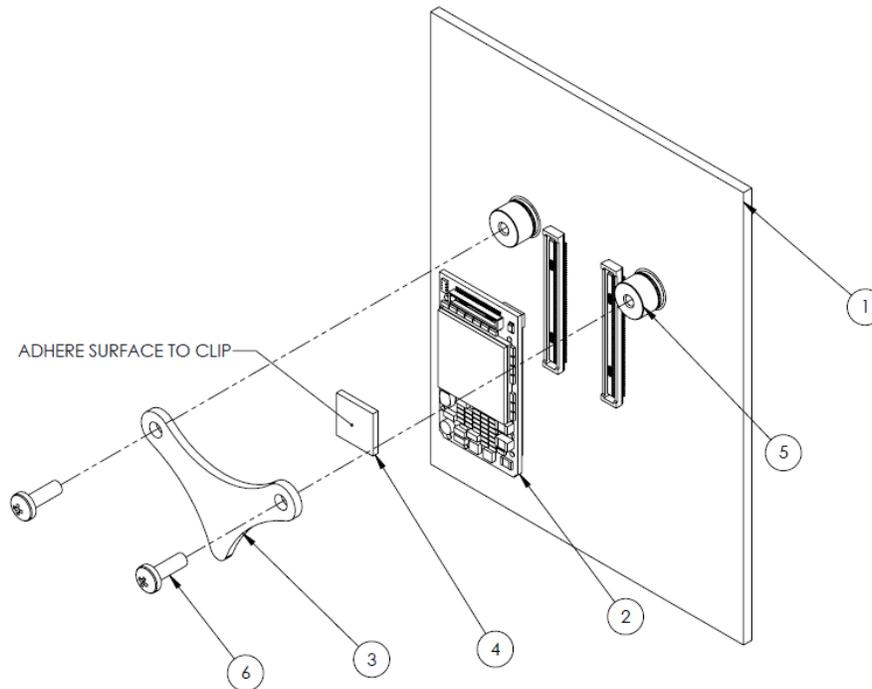

Figure 6.1: Torpedo SOM Hold-Down Clip Assembly
The Zoom OMAP35x Torpedo Development Kit includes a SOM hold-down clip that demonstrates a method of securing the SOM to an application baseboard in the field. Figure 6.1 shows the process for connecting the included clip. The standoffs, item 5, are already connected to the development kit baseboard; item 4 is the included thermal pad.